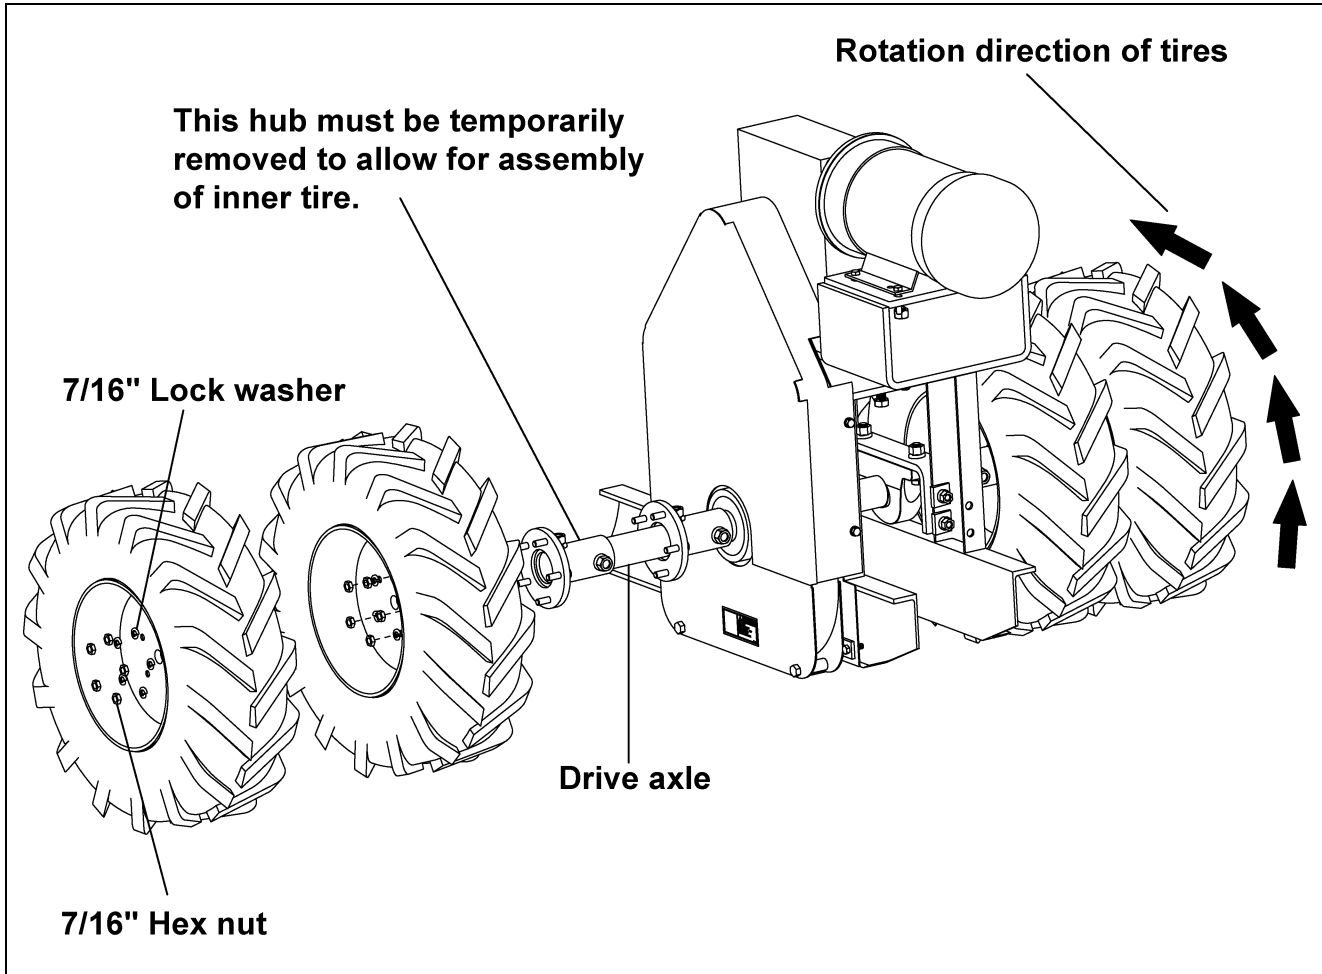

Figure 5Q
A. Assemble the tires to the drive axle assembly using twenty (20) 7/16" lock washers and hex nuts. (See Figure 5Q.)
**NOTE:** Tires go on backwards as shown in Figure 5Q.